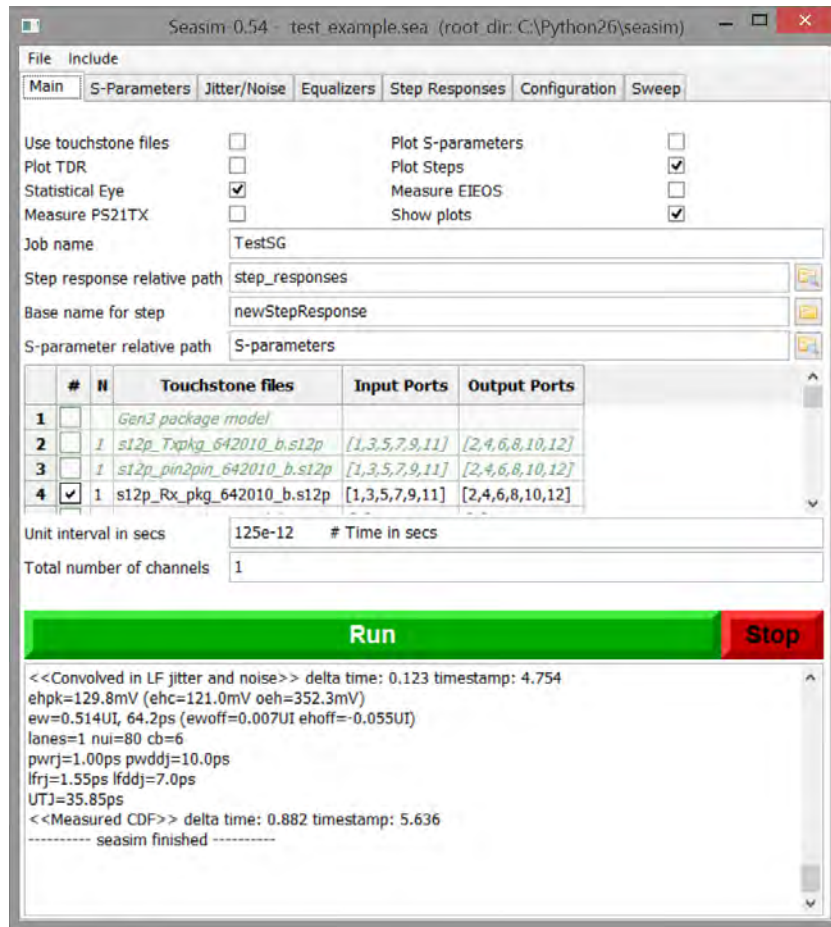

FIGURE 94 SEASIM MAIN SETUP
- b) Check the options on top save, as shown in Figure 94.